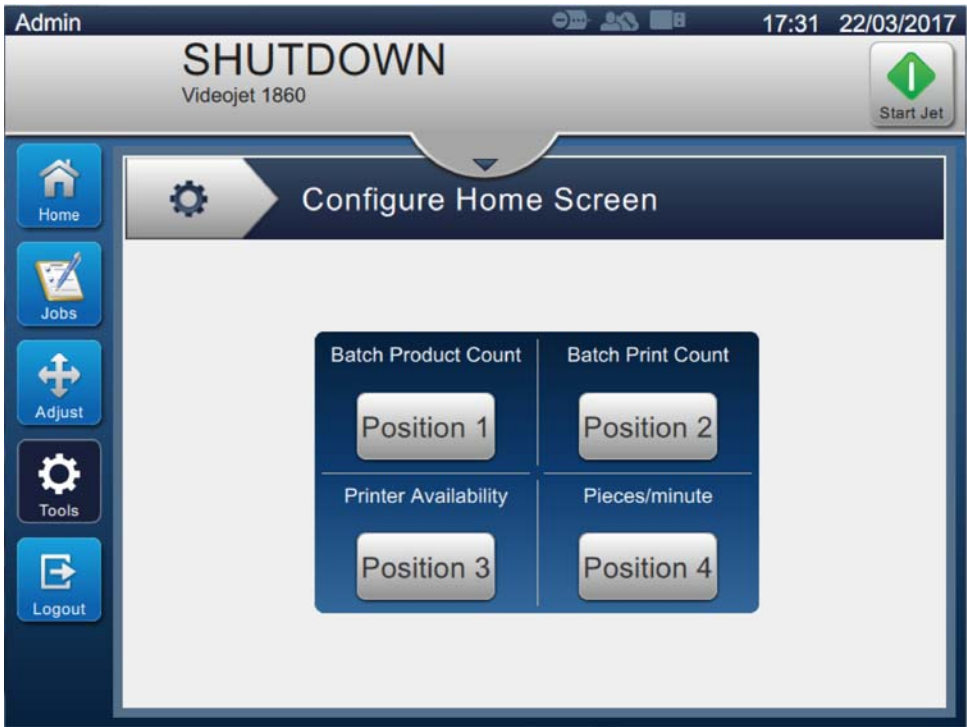

Figure 6-19: Configure Home Screen
1. Touch the  button from the Tools screen. The Configure Home screen opens as shown in the Figure 6-19.